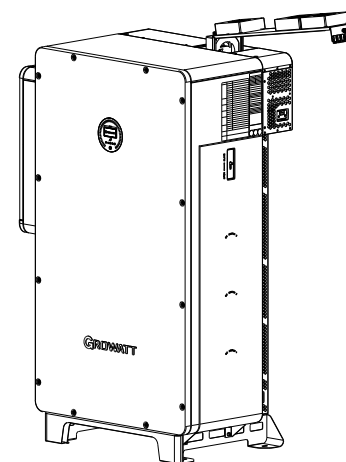

Fig 9.2 Position of the fan
- 3> Disconnect the fan connector, remove the fan fixing plate with a screwdriver, and remove the fan, as shown in Fig 9.2: